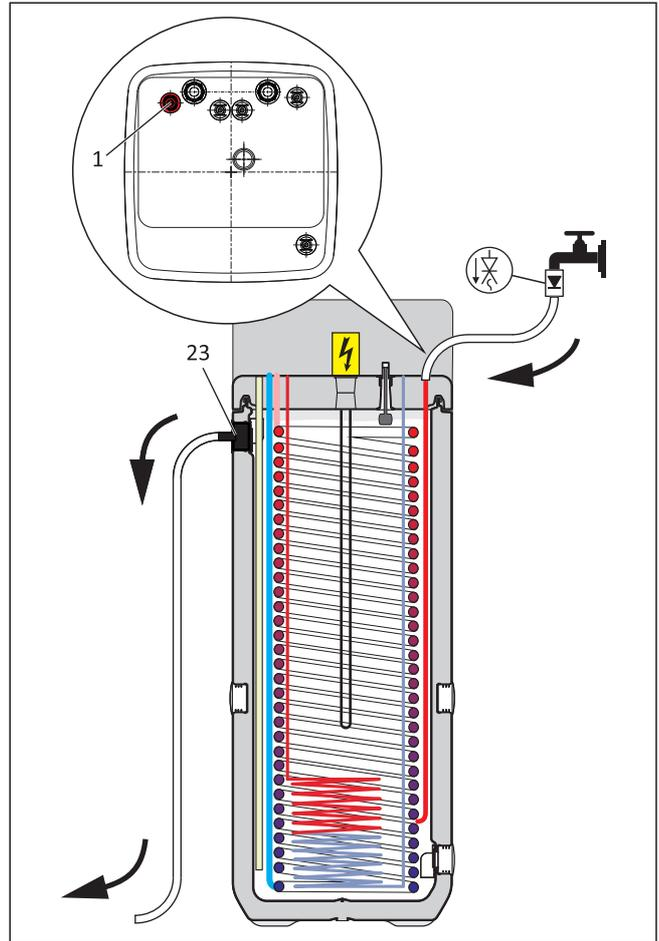

Fig. 9-1 Filling the storage tank - without solar system
- Connect the **filling hose** with backflush prevention (1") to the  connection "**DrainBack Solar - feed**" (see fig. 9-1, **item 1**).
- **Fill** the storage tank on the DAIKIN EKHHP **until water comes out of** the connection (fig. 9-1, **item 23**), that has **been connected as the safety overflow**.